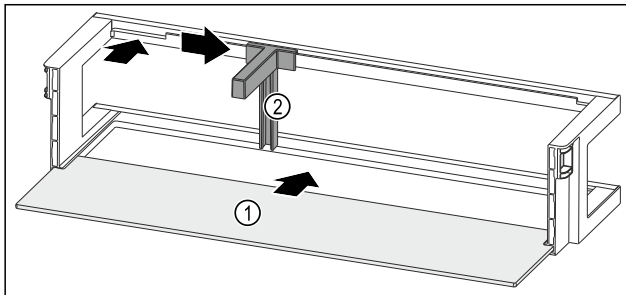

Fig. 92 Door racks with shelf
- Push the shelf Fig. 92 (1) into the side cutouts.
- Insert the bottle holder Fig. 92 (2) into the recess.
- Push the bottle holder Fig. 92 (2) to the side into the desired position.